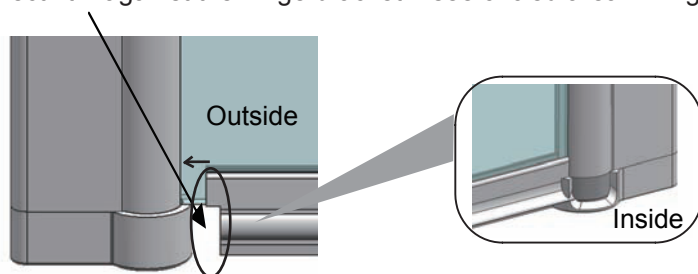

FIG 7
7. Ensure the deflector on the seal is positioned on the inside. Make a cut on one of the bottom corners of the seal to ensure a correct fit against the hinge bracket – see circled area in. Fig 7